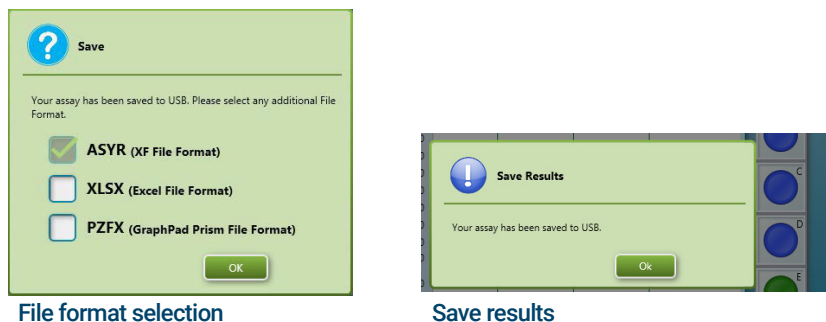

Figure 12. Save results
- After the assay is complete, the data automatically is saved to a USB flash drive (if inserted), the local drive, or the networked drive (if configured). A message appears indicating the location of the save Assay Result File (*.asyr). See Figure 12.
After the assay is complete, data will be automatically saved on the assay result file format to the location specified at the start of your assay (USB flash drive, network location, or locally). It is mandatory to save result data in the assay result file format after completing the assay and will always be checked ON. You can also save result data as an Excel file (.xlsx) and GraphPad Prism file (.pzfx) directly from the XFp Analyzer as well. Check the box next to the desired file formats and click **OK** (Figure 12).